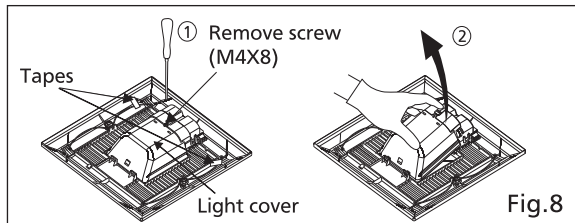

Fig.8
10. Remove the tapes from the louver and springs before installing the grille to the fan. Remove screw (M4X8) and light cover. (Fig.8)